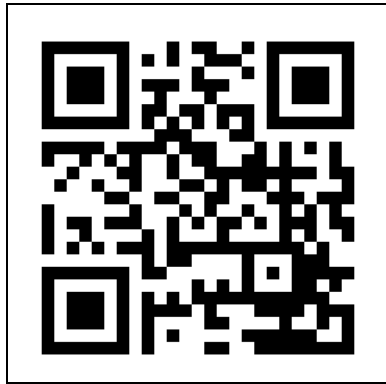

Figure 13
1. Open the Eurom Smart App manual with the QR code (Figure 13) or go to www.eurom.nl/nl/manuals.